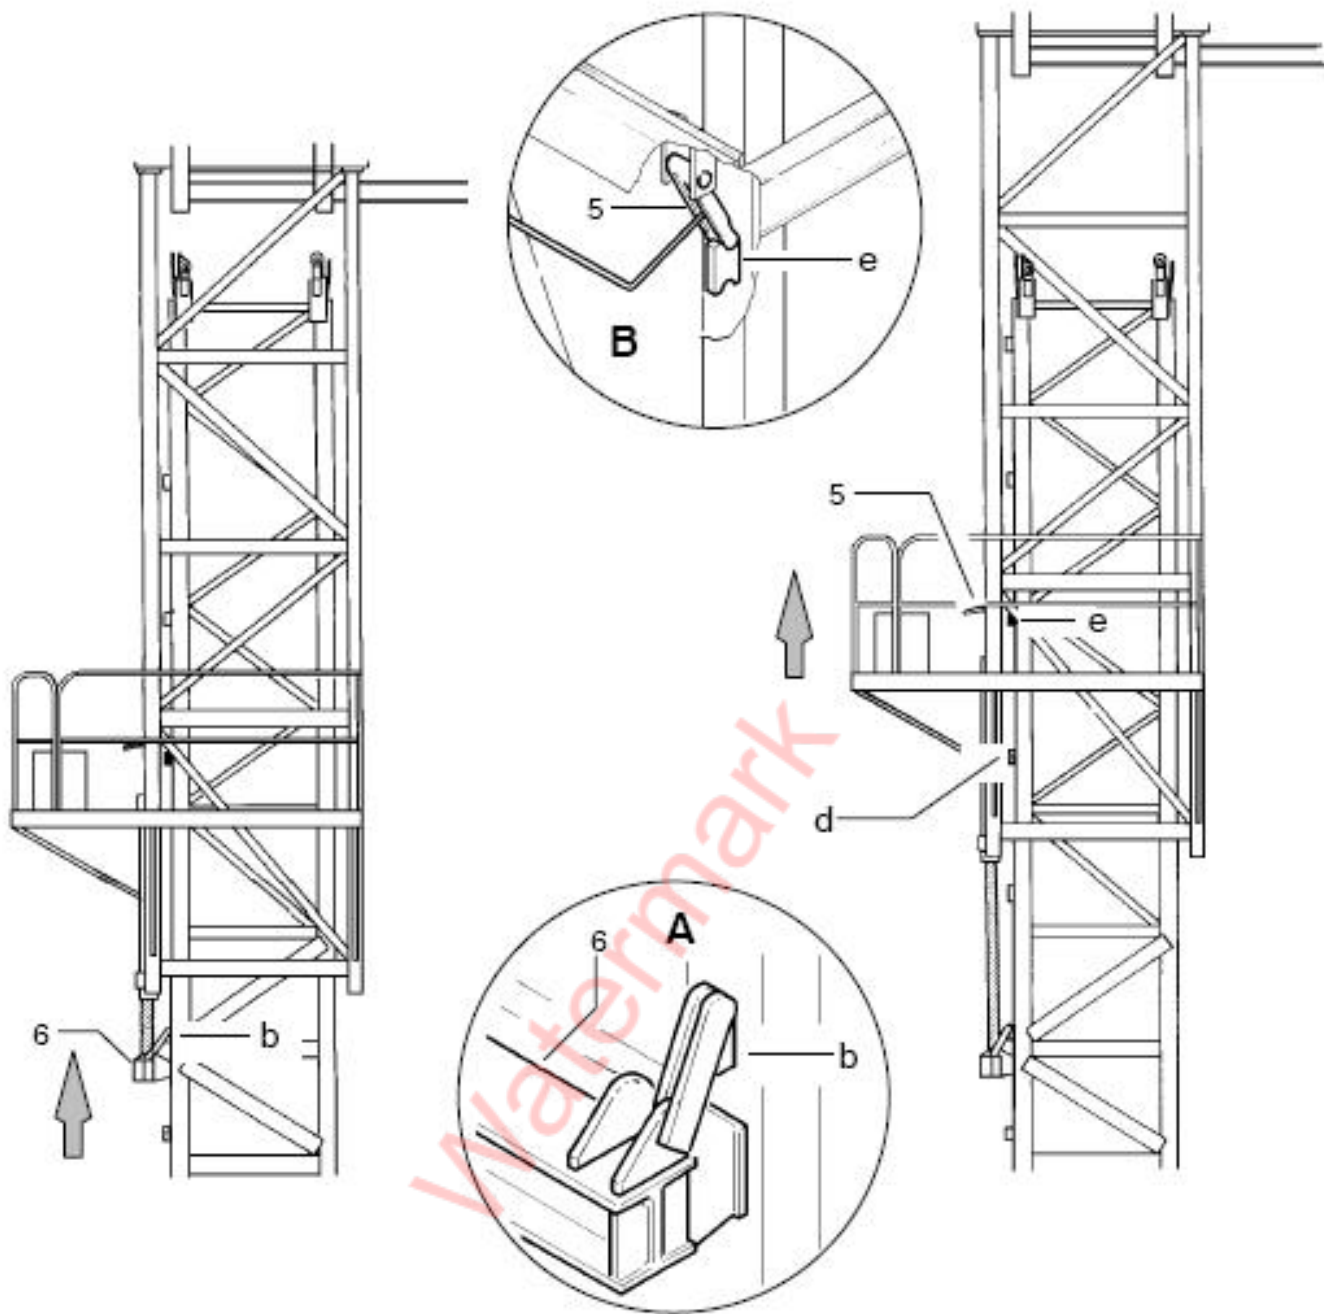

Figure 3
_ After resting the telescopic cage by means of its pawls onto the lugs (d), pull the hydraulic unit lever in the “down” direction, the yoke (6) rises and hangs up onto the next lugs (b) above (Detail A – Figure 3).
_ Operate the hydraulic unit lever in the “up” direction, the cylinder extends and the pawls (5), resting on the lugs (d), rise to the lugs (e) (Detail B – Figure 3).
_ Operate the lever in the “down” direction in order to rest the pawls (5) onto the lugs (e) (Detail B – Figure 3).